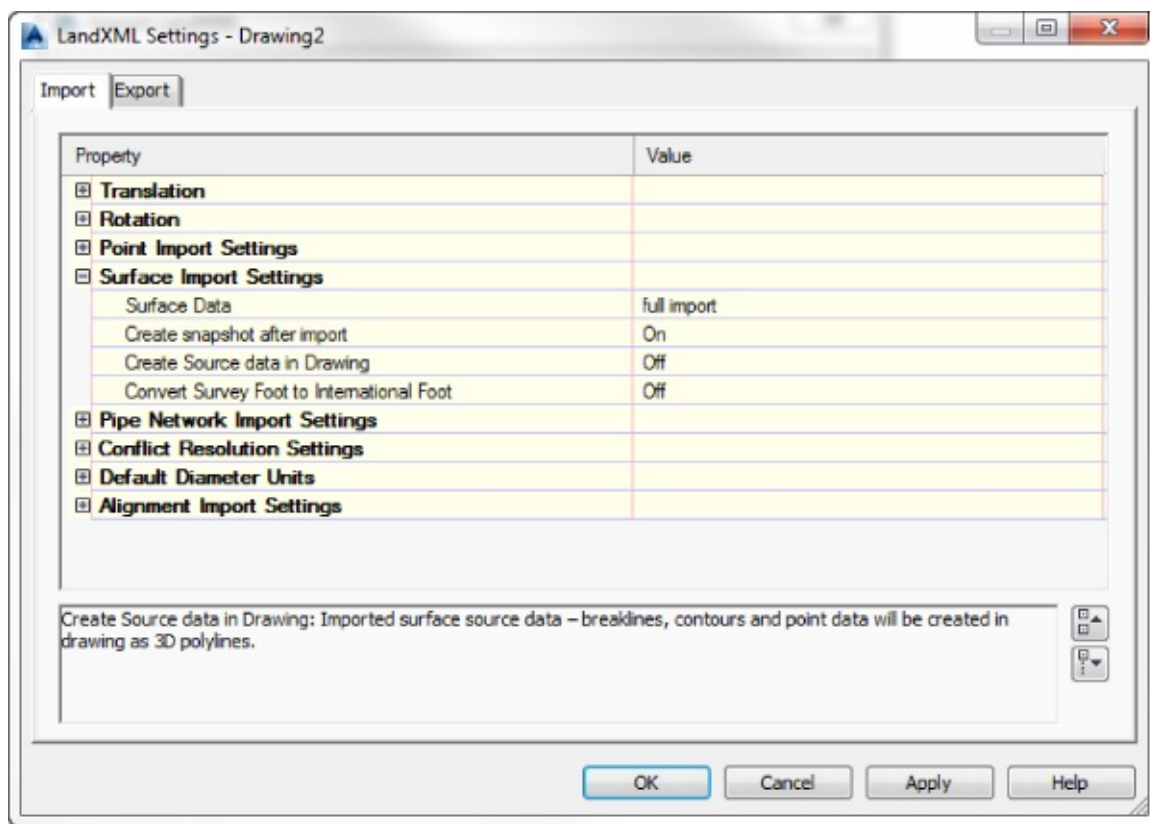

Figure 4.13 Configuring Surface Import Settings
7. Expand the Surface Import Settings collection and configure these settings to match Figure 4.13.